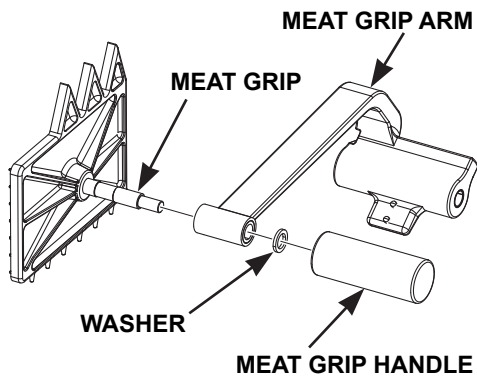

Fig. 15
- Assemble the Meat Grip Assembly (Fig. 15) by placing the Washer, Meat Grip Arm, and Meat Grip Handle on the shaft of the Meat Grip.